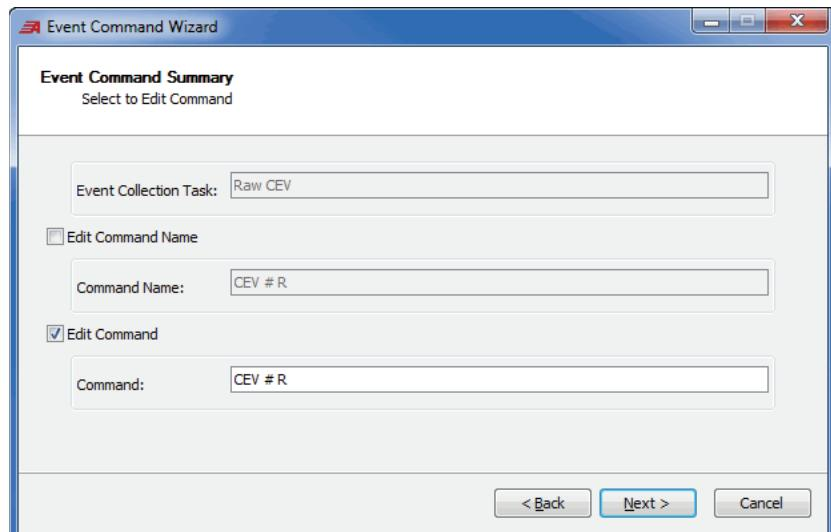

Figure 84 Command Name
Step 3. Select **OK** and then, with **RAW CEV** highlighted, select **Create** under the **Command Names** column to open the **Event Command Wizard** as shown in *Figure 84*.
Step 6. Select **Edit Command**, as shown in *Figure 84*, and modify the command to be **CEV # R**. Select **Next** and then **Finish**.